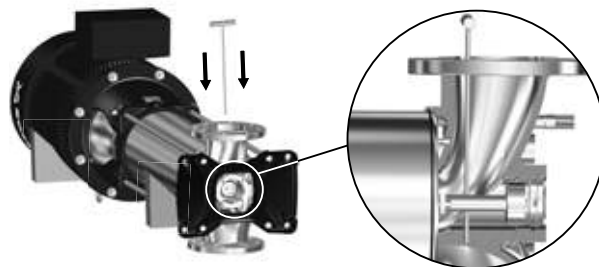

Fig. 16 Holding the pumps shaft (51) with service tool D.
4. Loosen and remove the nut (Note: left-hand thread) (120f) and washer (120e). Use service tool D to hold the pump shaft (51) when loosening. See fig. 16
3. Tighten the nut (120f). Use service tool D to hold the pump shaft (51) when tightening. See fig. 16.